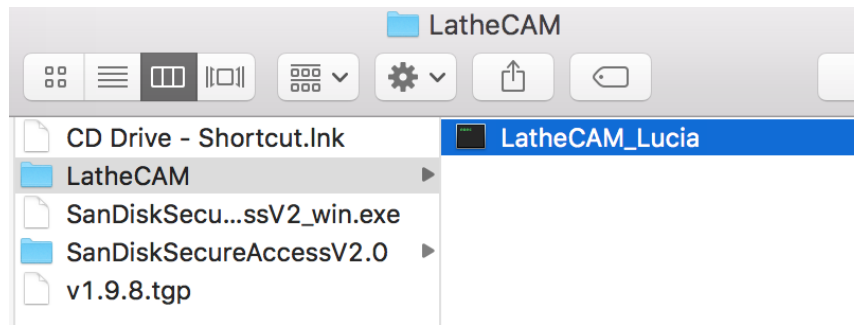

FIGURE 3.3: THE CORRECT FOLDER TO PLACE THE G-CODE IN THE USB.
- Copy your G-code file into the “LatheCAM” folder, which is in the root of the flash drive, Figure 3.3.